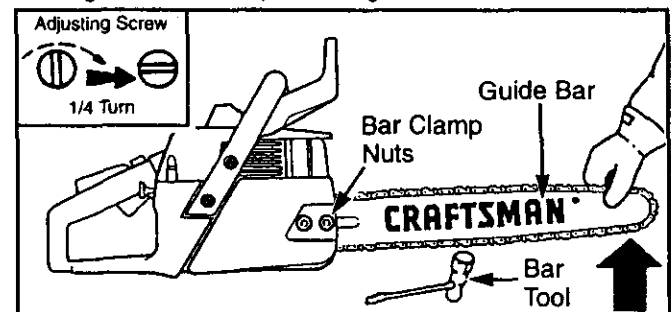

Figure 20
- If chain is too loose, refer to "Chain Adjustment." Loosen bar clamp nuts; then, turn adjusting screw 1/4 turn clockwise. Lift up tip of guide bar to check for sag. Retighten bar clamp nuts, Figure 20.